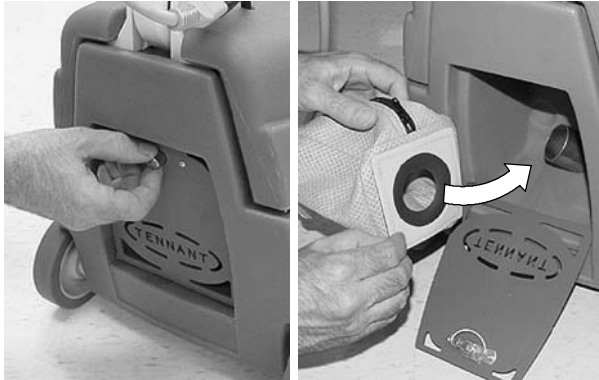

FIG. 3
1. Open the dust bag compartment at rear of machine by turning the knob counter-clockwise (Figure 3).
2. Slide the dust control bag collar over the intake tube as shown and close compartment (Figure 3).